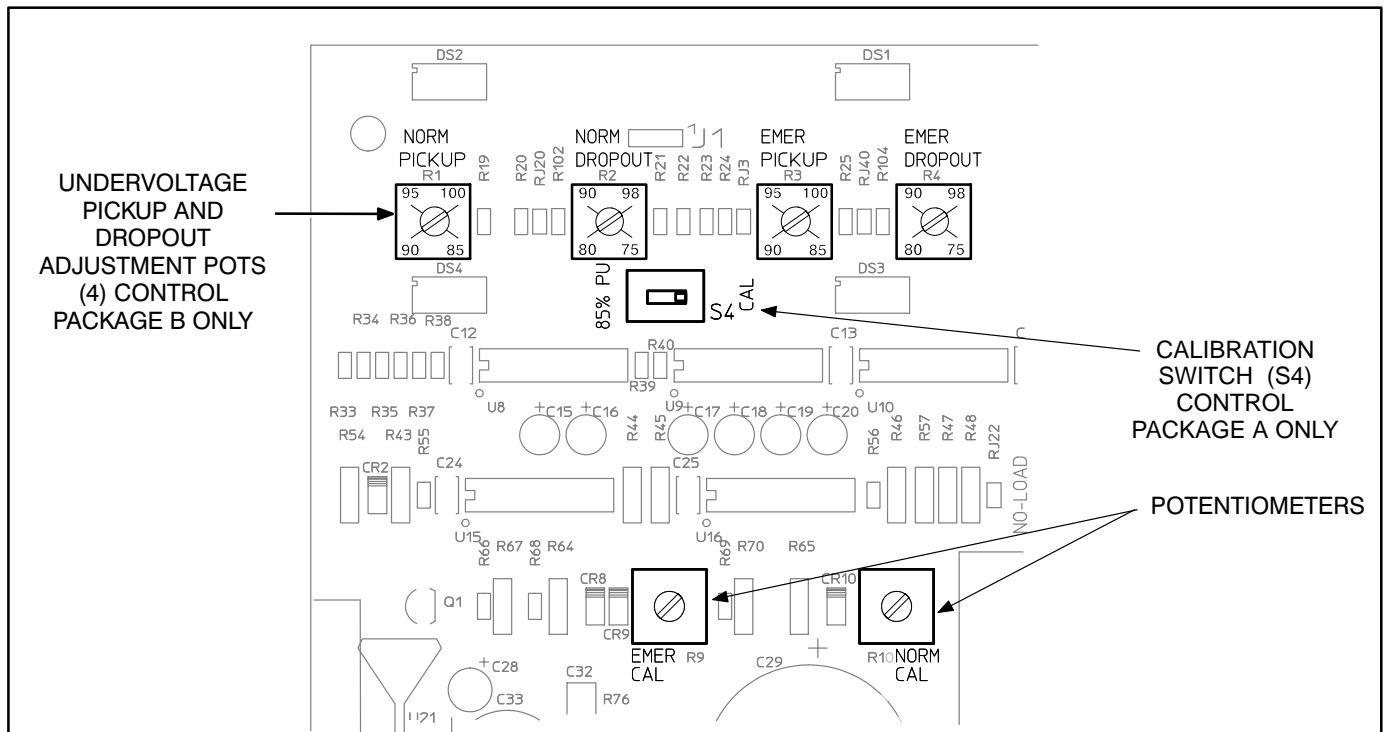

FIGURE 4-4. UNDERVOLTAGE CALIBRATION, PICKUP AND DROPOUT ADJUSTMENT
A separate voltage sensor is used for each power source. The adjustment pot locations are shown in Figure 4-4.
2. Move the calibration switch (Figure 4-4) to the CAL position. Turn the Normal or Emergency calibration potentiometer fully counterclockwise.
- a. Turn the Normal Pickup pot (Figure 4-4) fully clockwise to 100% pickup.
To set the pickup and dropout percentages, align the slots on the potentiometers with the desired markings as shown in Figure 4-4).